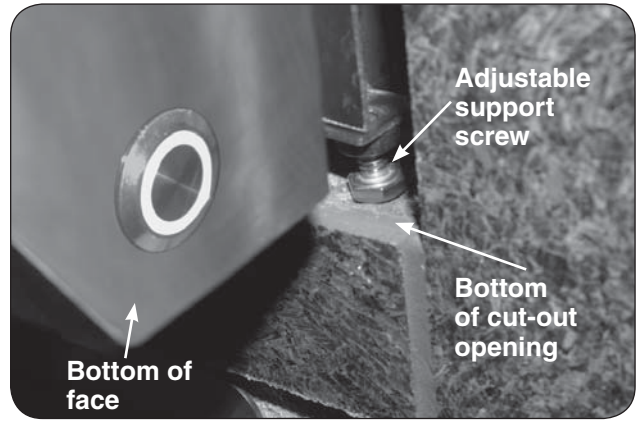

Fig. 19-1 Adjust support screws
- Rotate the adjustable support screws to the left to raise and to the right to lower the respective side of the appliance grill. Use a $\frac{7}{16}$ " open-end wrench as needed. See Fig. 19-1.